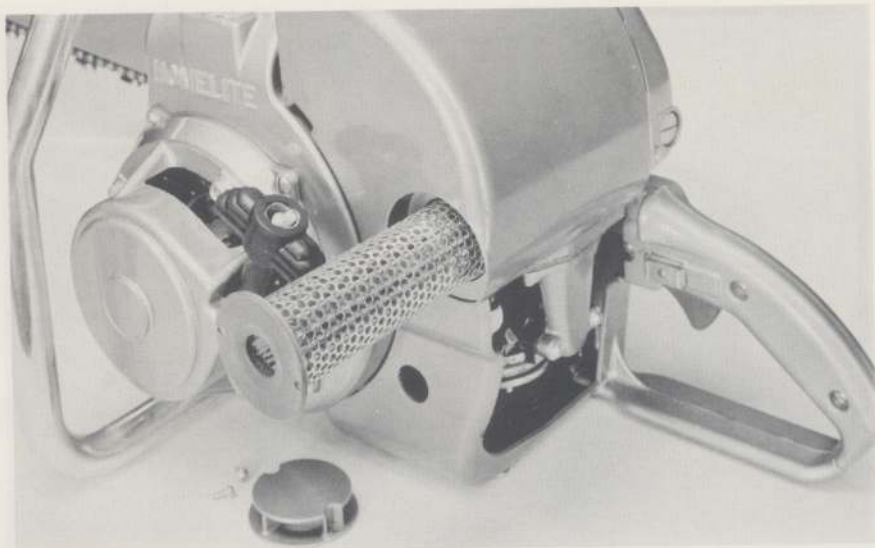

Figure 12—Changing Air Filter
(1) Occasionally reverse the position of the guide bar top-for-bottom on the saw. This will distribute the wear on both sides of the bar.
(2) Check bar rails for uneven wear . . . restore uneven rails to even height by grinding the high rail. However, if both rails are worn at any point so the chain hits bottom in the groove, either replace the bar or repair by grinding the groove deeper. After grinding, remove all burrs and rinse bar in solvent to remove abrasives.
a. Air Filter (See figure 12)
(1) The air filter must be cleaned frequently to prevent loss of power. Under severe dusty conditions, clean filter daily. A dirty engine restricts the air volume, causes rich operation, carbon build-up, low power, and may prevent proper acceleration.
(2) DO NOT POKE HOLES IN OR BLOW AIR THROUGH THIS FILTER. Replace air filter if it is cracked or torn. To clean filter, remove two screws through the air filter cap; remove and rinse filter in solvent. The filter must be thoroughly dry before use. Keep a spare one for immediate use whenever necessary.